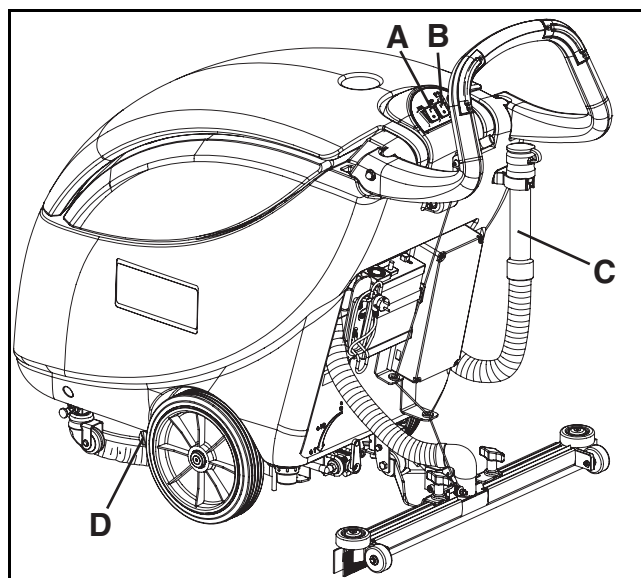

Figure 26
2. Make sure that the switches (A and B, Fig. 26) are in the "0" position.
Drain the water from the tanks by means of the drain hose (C, Fig. 26) and valve (D).